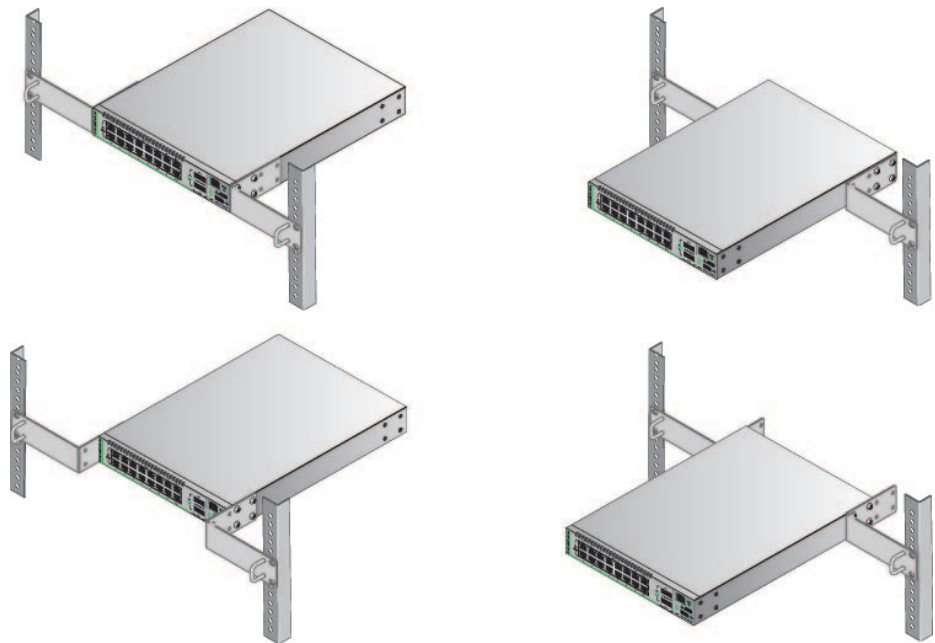
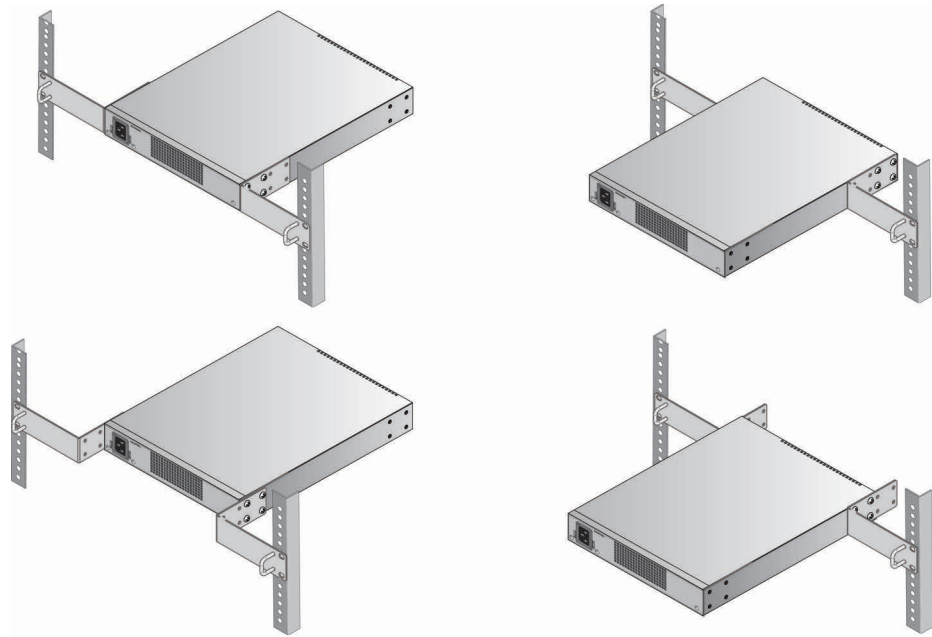
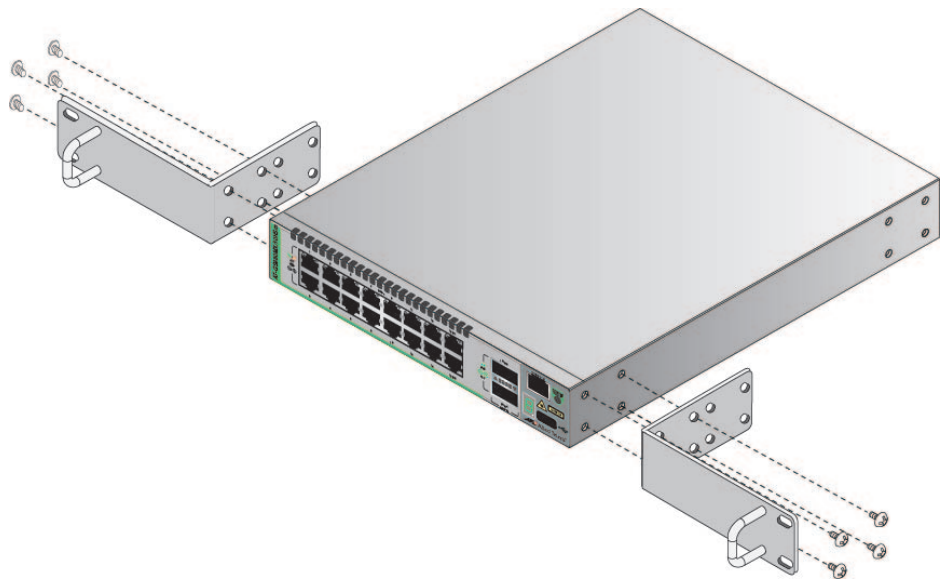

Figure 26. AT-GS980MX/10HSm Switch Positioned with the Front Panel Facing the Front of the Equipment Rack
Figure 27. AT-GS980MX/10HSm Switch Positioned with the Rear Panel Facing the Front of the Equipment Rack
Figure 29. Attaching the RKMT-J14 Brackets to the AT-GS980MX/10HSm Switch
You can use the different sets of holes on the switch and brackets to install the switch in the equipment rack in a variety of orientations. You can install it with the front panel flush with, extending in front of, or recessed behind the front of the equipment rack. The illustrations in Figure 26 show the switch orientations with the front panel facing the front of the equipment rack.
You can also orient the AT-GS980MX/10HSm Switch with the rear panel facing the front of the equipment rack. Refer to Figure 27.
3. Attach the two brackets to the sides of the switch in the selected position, using the eight M4x6mm screws included with the unit. (Refer to Figure 26 on page 75 and Figure 27 on page 76.) The illustration in Figure 29 shows the installation of the brackets such that the front panel of the switch is even with the front of the equipment rack.